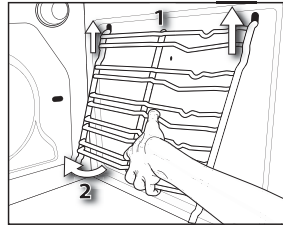

Fig. 3
2. To remove the grilles, lift them up (1) and turn them (2) as shown in fig. 3.
1. Remove the side accessory holder grilles (Fig. 3).
2. Remove the side accessory holder grilles, if present (Fig. 3).